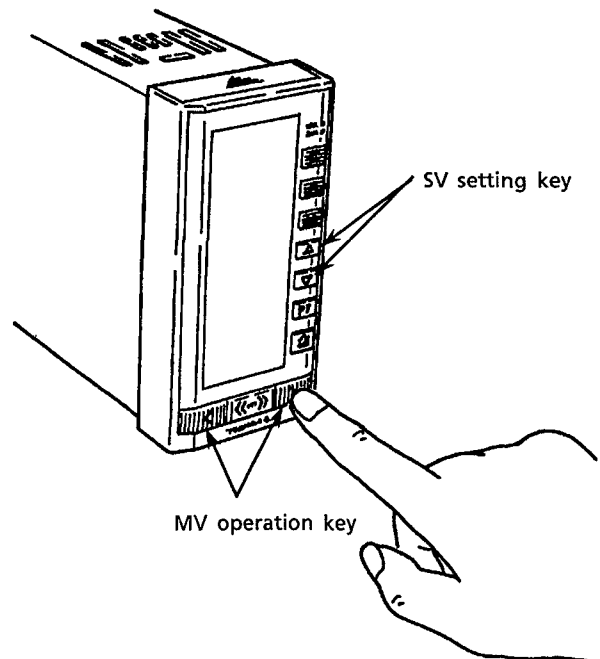

Figure 10.2 Manual Operation for Output
- ② Adjust the SV value to the desired value, by pressing the  key or the  key of the SV setting key (see Figure 10.2).
- ③ Adjust the output signal, by pressing the  key or the  key of the MV operation key (see Figure 10.2).